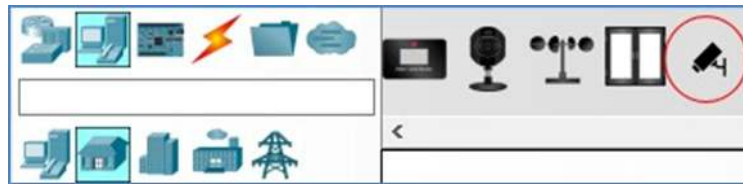

Figure 11.9: Confirming the custom Security Camera appears in the “Home” category.
- In the *Device-Type Selection* box, under the **Home** category (or the category you chose), look for your Security Camera device (Figure 11.9).